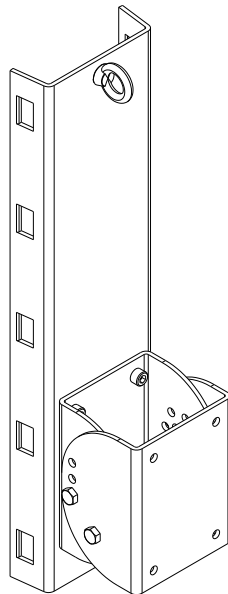
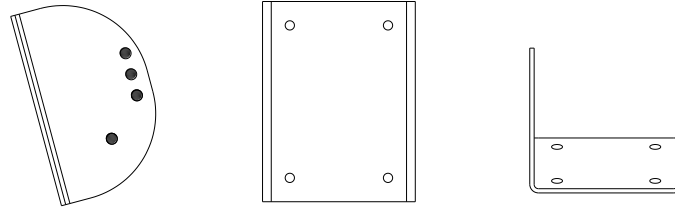

Figure 1
Figure 2
Figure 1 represents the isometric and top views of the pole bracket, including the loudspeaker bracket section.
The loudspeaker bracket is shown separately in Figure 2 below.
1. Mount the pole mount section (see figure 1) of the bracket to the pole at the desired height on the pole. The loudspeaker bracket shown in Figure 2 should be removed prior to hanging the pole mount section. The bracket is mounted to the pole using BAND-IT stainless steel bands. **DO NOT SUSTITUTE** bands of other material or other widths! There are **FIVE** locations on the pole bracket for bands. **ALL FIVE LOCATIONS MUST BE USED**. Figure 4 illustrates the locations for the stainless steel band clamps.
4. The loudspeaker may now be placed on the pole bracket. (main bracket see figures 1 and 2)